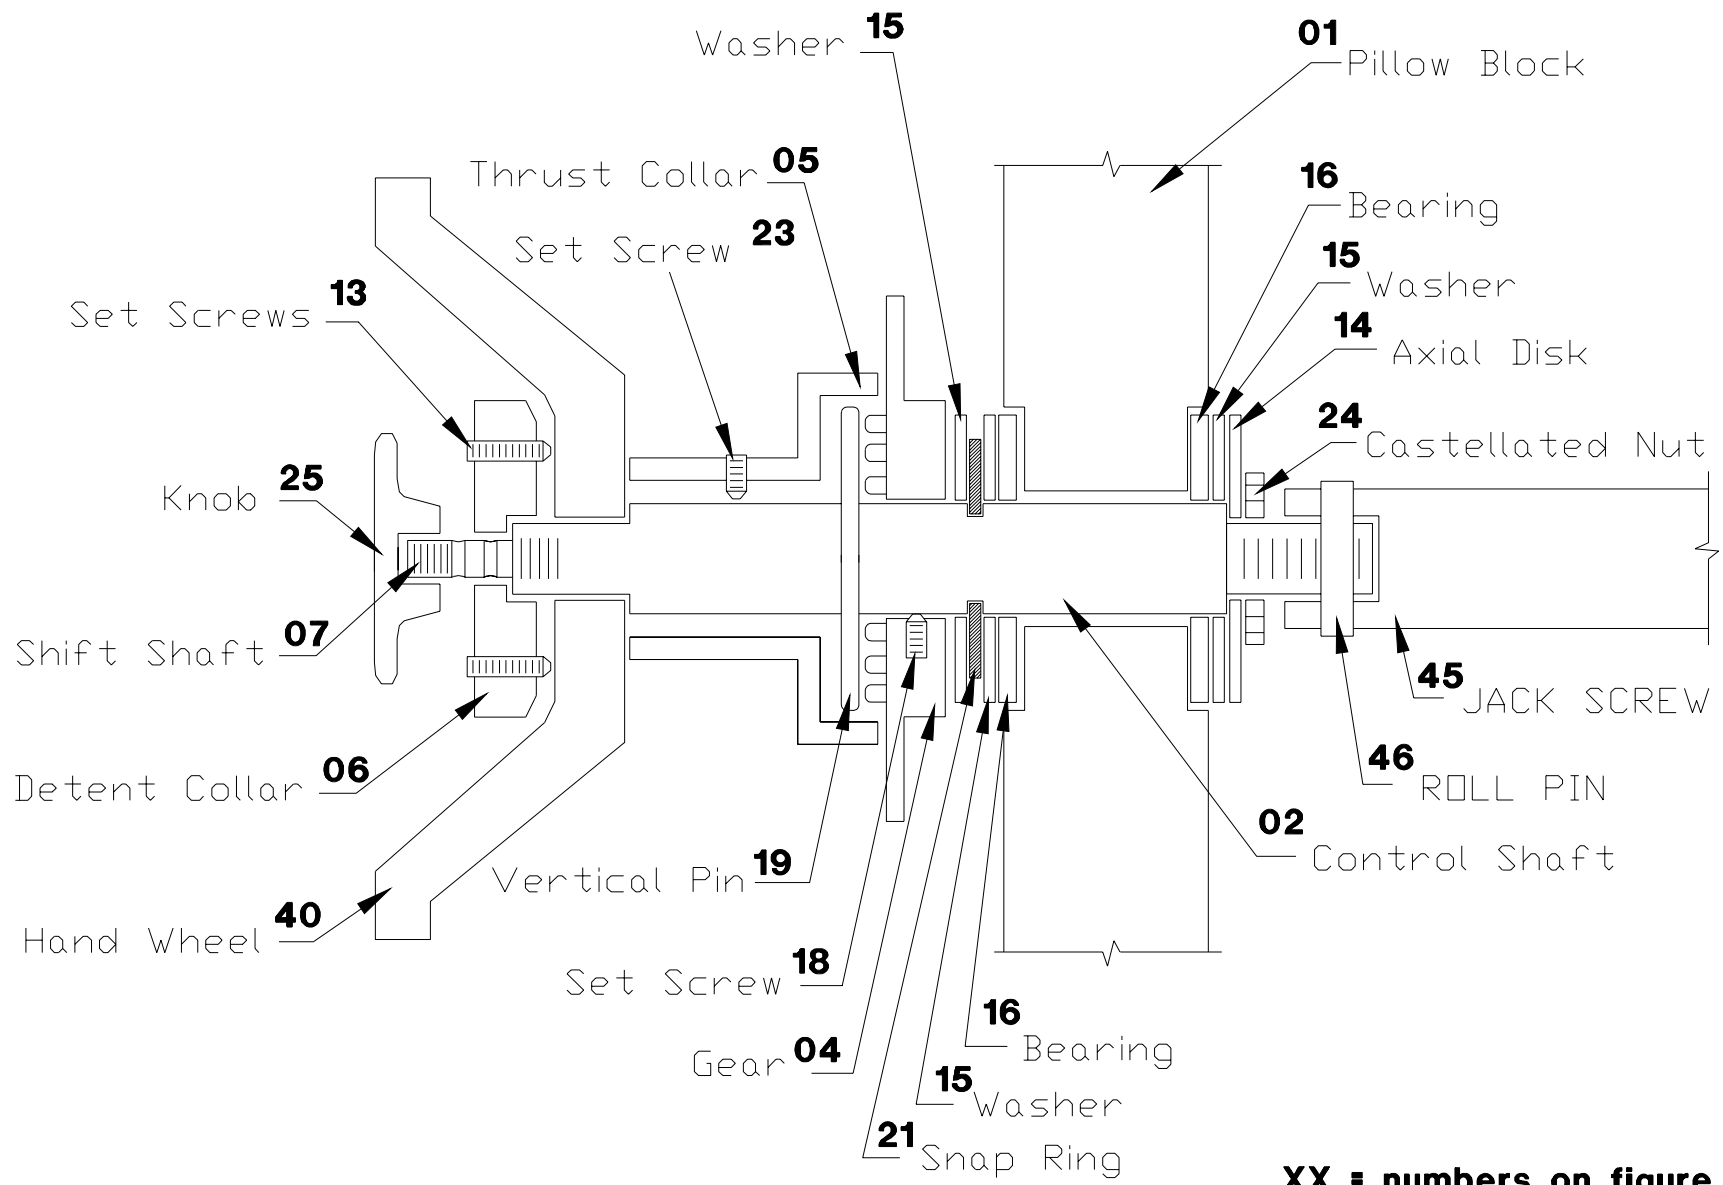

**Figure 9**
Pull the Large Gear and the Washer behind it forward on the Control Shaft. The Snap Ring and both sides of the groove should now be visible. The Snap Ring is shown in Figure 9. Check that the Snap Ring is fully seated (all the way around) in the groove on the Control Shaft.
13) Slide Gear Support Plate and Washer back to expose Snap Ring (Figure 9).
- 1) Be sure the Snap Ring is fully seated in the groove of the shaft (Figure 9).